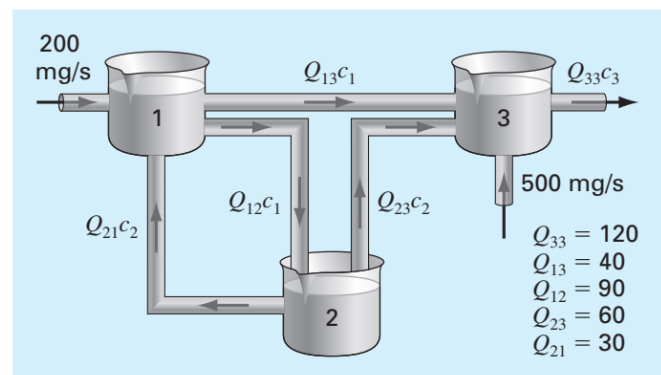

FIGURE P9.9
9.9 Figure P9.9 shows three reactors linked by pipes. As indicated, the rate of transfer of chemicals through each pipe is equal to a flow rate (Q , with units of cubic meters per second) multiplied by the concentration of the reactor from which the flow originates (c , with units of milligrams per cubic meter). If the system is at a steady state, the transfer into each reactor will balance the transfer out. Develop mass-balance equations for the reactors and solve the three simultaneous linear algebraic equations for their concentrations.